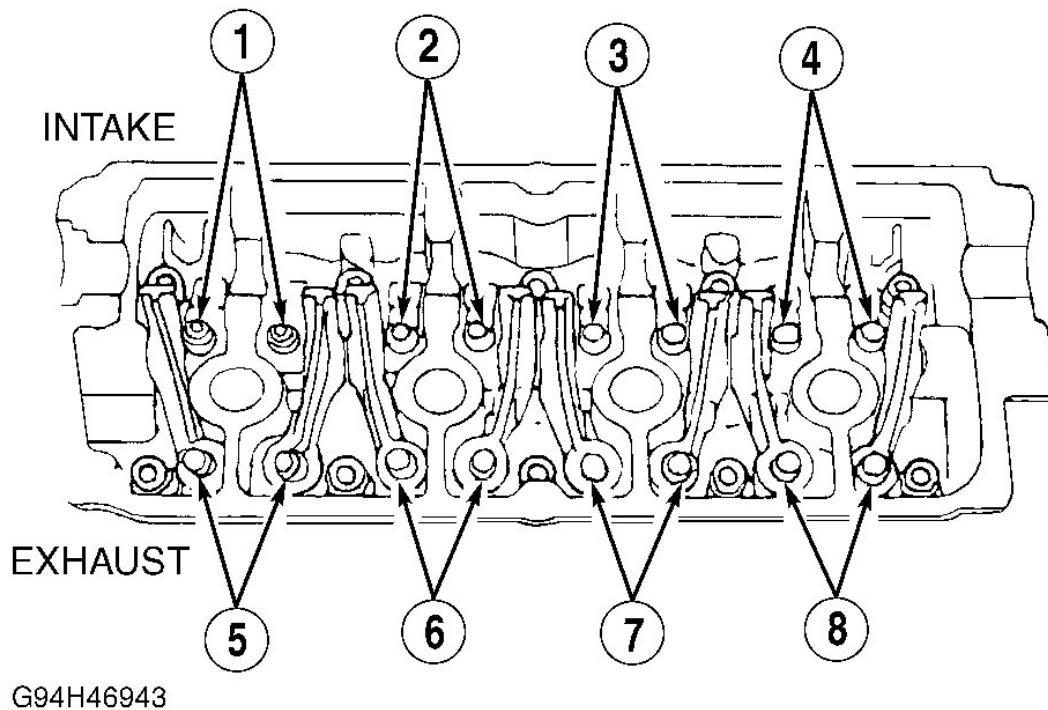

Fig. 1: Checking Valve Clearance
2. Using thickness gauge, measure clearance between cam-riding rocker arm face and camshaft lobe. Check valve clearance at positions No. 1, 2, 5 and 7. See **Fig. 1**. Indicated rocker arms should be off of camshaft lobes.
3. Turn crankshaft clockwise one complete revolution (360 degrees). Check valve clearance at positions No. 3, 4, 6 and 8. See **Fig. 1**. Ensure clearance is within specification. See **VALVE CLEARANCE SPECIFICATIONS** table.